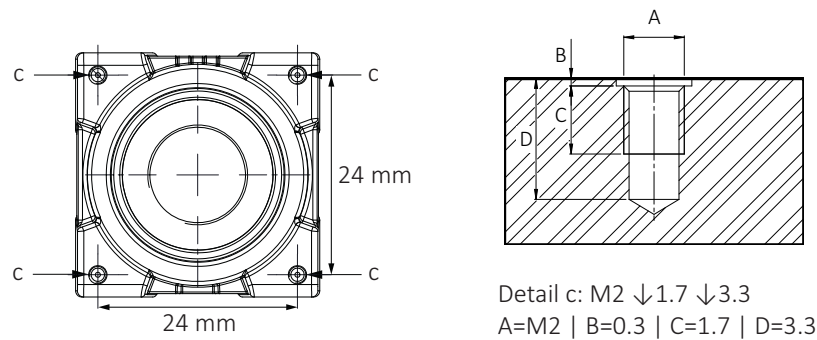

Figure 37: Camera front with mounting threads (c)
1. Mount the camera to the base using suitable M2 screws at 0.17 Nm maximum torque for a thread engagement (C) of 1.7 mm between screws and mounting threads, see Figure 37. For technical drawings, see Dimensions and mass on page 103.